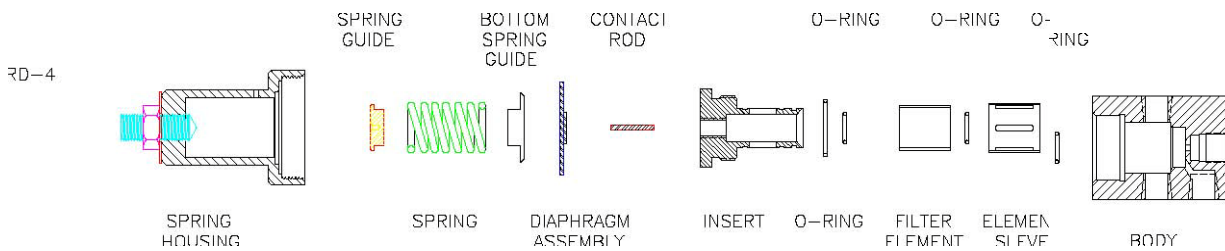

FIGURE 4
3.2.3 Unscrew the spring housing from the body #11 (see Figure 4).